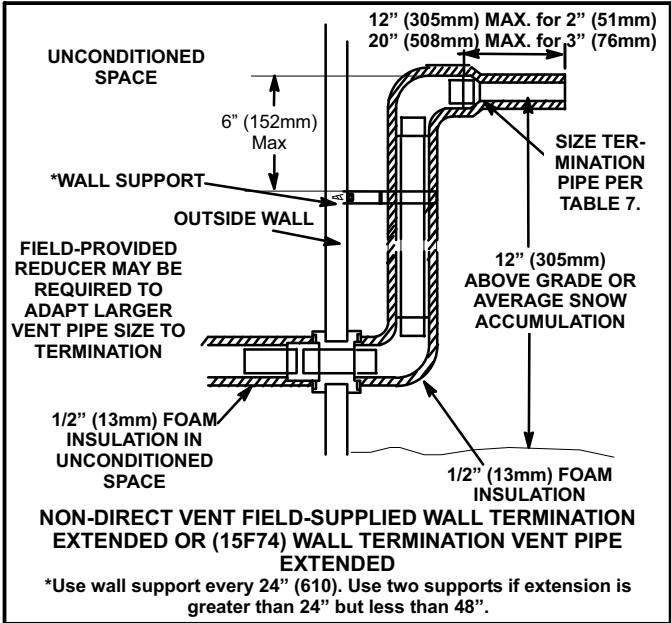

FIGURE 43
- 3 - If exhaust piping must be run up a side wall to position above snow accumulation or other obstructions, piping must be supported every 24 inches (610mm) as shown in figure 43. When exhaust piping must be run up an outside wall, any reduction in exhaust pipe size must be done after the final elbow.